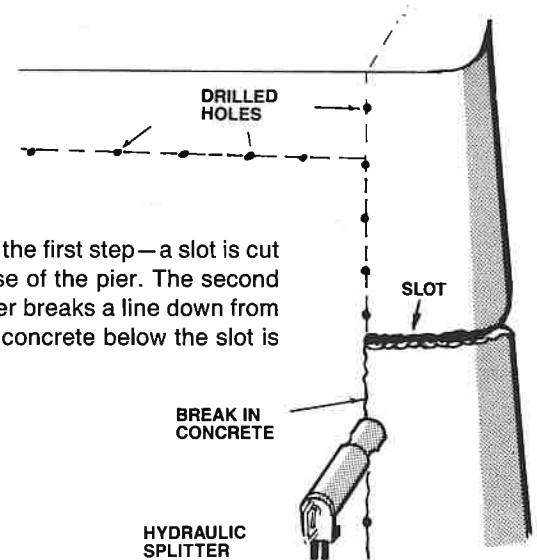

FIG. 1
1. To conduct a required load test, a line of holes were drilled across the nose of the pier; this would create an open slot across the 2-1/2' nose. (See Fig. 1)
2. Other holes were drilled below the slot about 1-1/2' to 2' apart. (See Fig. 1) A Hydraulic Splitter was to be placed into these holes and a break ran from the slot to the bottom of the pier. (See Fig. 1)